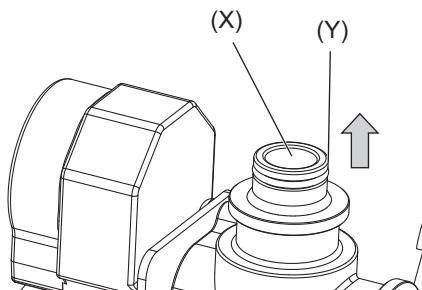

Fig.21
- (4) Remove the nipple (X) (and O-ring (Y)) from the FCV. (Fig.21)
(Fig.21)